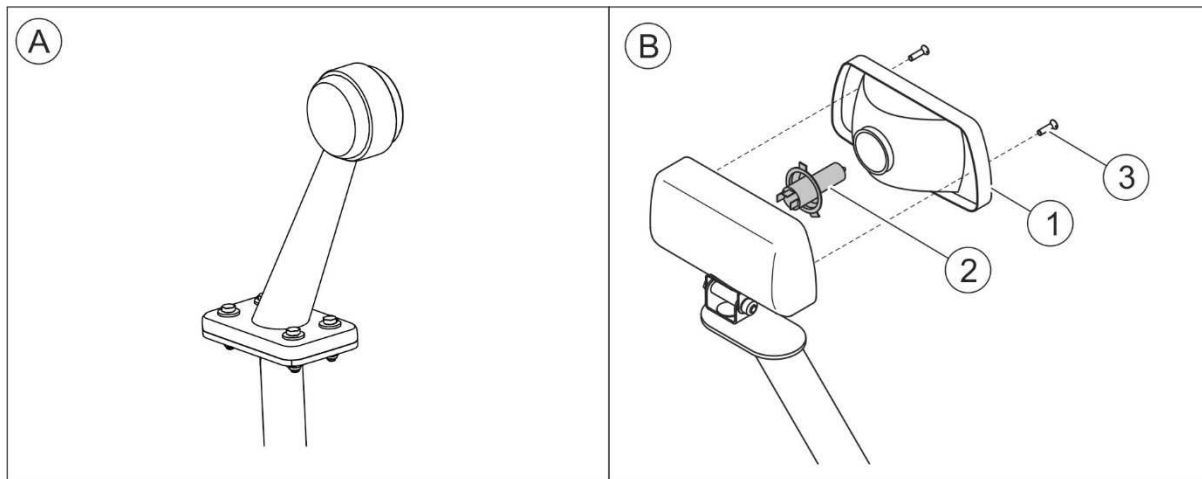

FIGURE 5.8 Replacement of bulbs in additional lights (option)
Light-emitting diodes (LED) are used as the source of light in clearance lights (A) (FIGURE 5.8) Thanks to this, the lamps are maintenance-free because there is no need to change bulbs.
Halogen bulbs are used as the source of light in additional lights (option) (B) (FIGURE 5.8). Bulb (2) in additional light (B) is accessible after unscrewing screws (3) and removing lens (1). List of lighting elements is included in TABLE 5.5